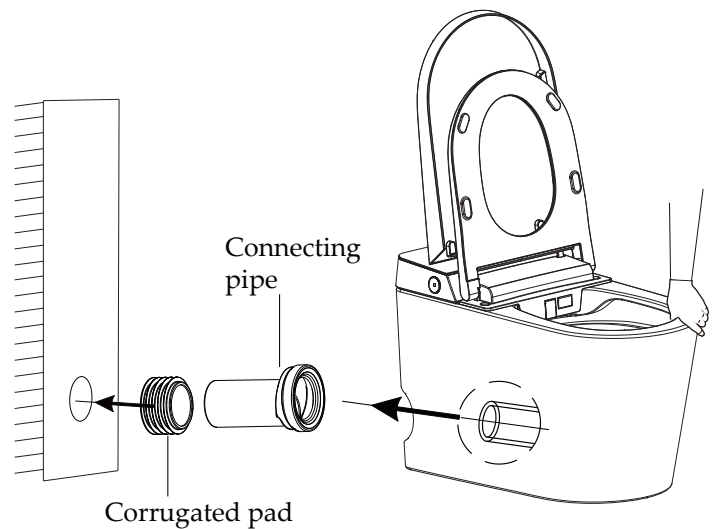

Figure 5
- ☐ Install the toilet into the corresponding position according to the location of the sewage outlet. (Figure 5)